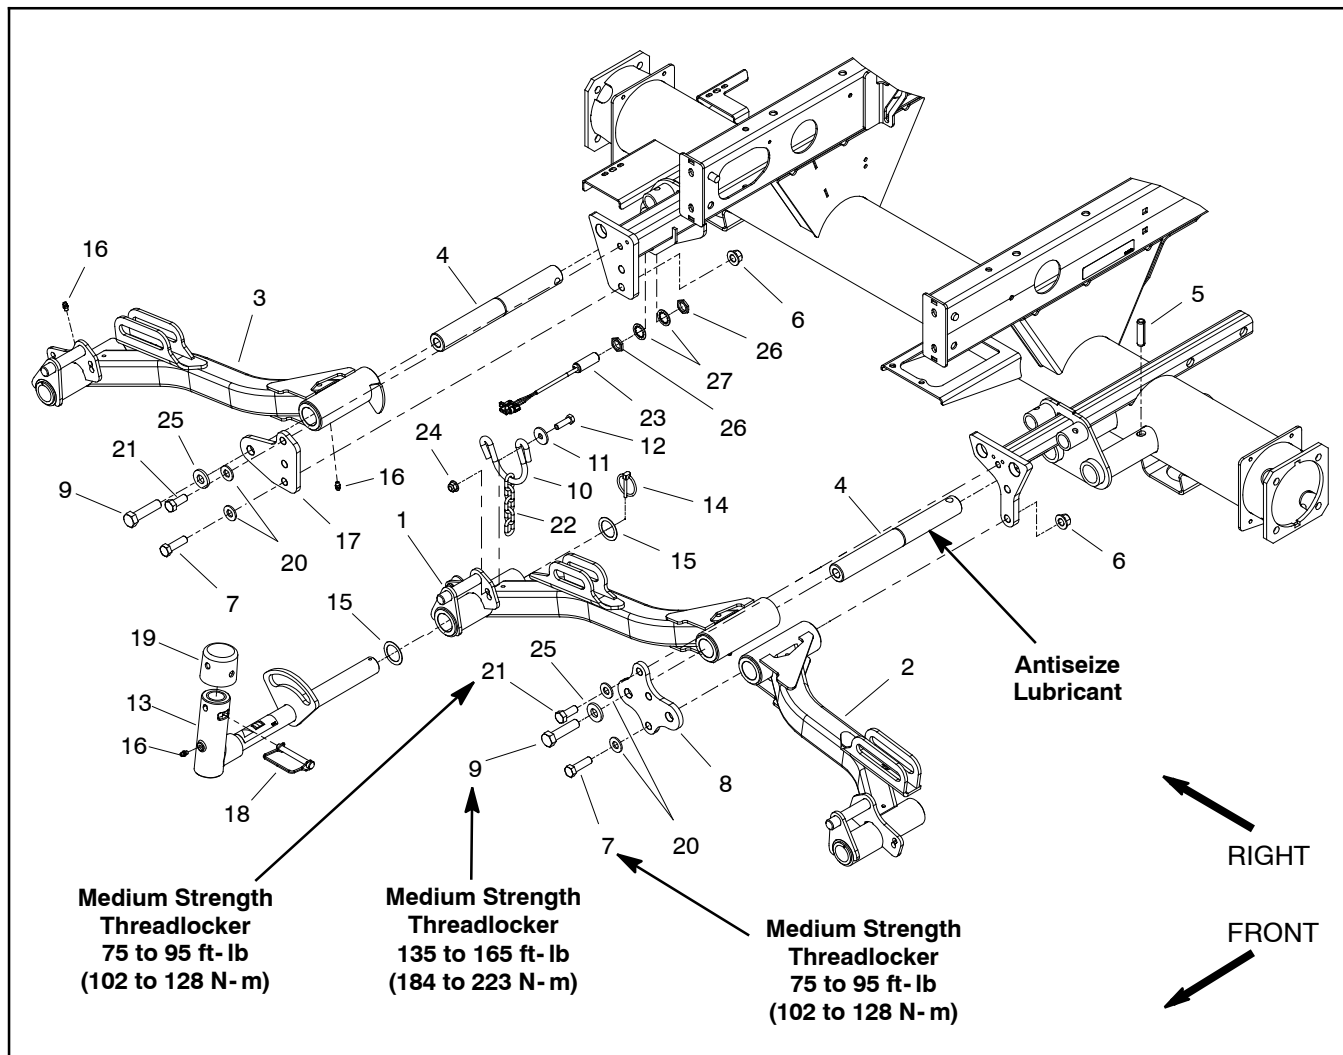
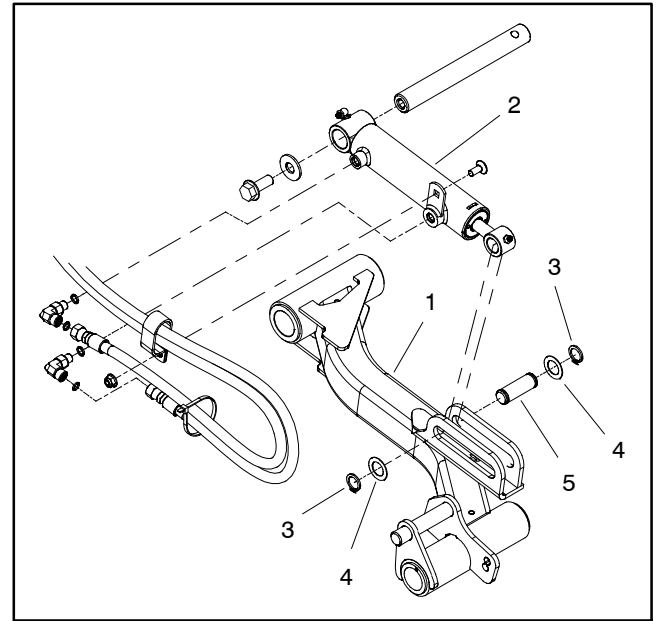
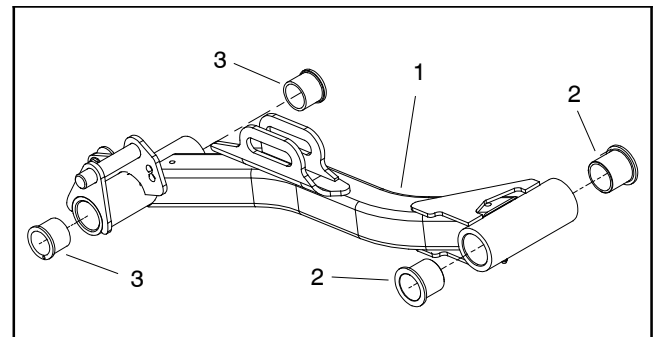

Figure 20
Figure 21
Figure 22
Removal (Fig. 20)
3. Remove one retaining ring (item 3 in Fig. 21) and thrust washer (item 4 in Fig. 21) from the cylinder slide pin (item 5 in Fig. 21) that secures lift cylinder to lift arm. Pull slide pin from the lift cylinder and lift arm. Locate and retrieve second thrust washer.
5. Remove lynch pin (item 14) and slide pivot yoke assembly from lift arm. Locate and retrieve two (2) thrust washers (item 15).
6. Remove fasteners that secure bridge plate (item 8 or 17) to machine.
8. Inspect bushings in lift arm and pivot yoke for wear or damage. If necessary, replace bushings (Figs. 22 and 23).
9. Check lift arm pivot shaft (item 4) for wear or damage. If necessary, remove roll pin (item 5) that secures pivot shaft to frame and remove pivot shaft. Discard removed roll pin.
Installation (Fig. 20)
1. If lift arm pivot shaft (item 4) was removed from frame, apply antiseize lubricant to portion of pivot shaft that is in frame bore. Slide pivot shaft into frame and secure with new roll pin (item 5).
3. Apply medium strength threadlocker to threads of cap screws (items 7, 9 and 21) that secure bridge plate (items 8 and 17). Secure lift arm to machine with bridge plate. Torque cap screws that secure bridge plate to torque values identified in Figure 20.
4. Position thrust washer (item 15) onto pivot yoke shaft and then slide pivot yoke into lift arm bushings. Place second thrust washer on pivot yoke shaft and secure with lynch pin (item 14).
5. Align lift cylinder to lift arm mounting slot (Fig. 21). Slide cylinder slide pin (item 5 in Fig. 21) with retaining ring (item 3 in Fig. 21) and thrust washer (item 4 in Fig. 21) through the lift arm and lift cylinder. Install second thrust washer on pin and secure with second retaining ring.